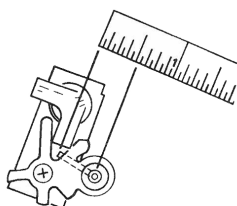

Figure 6
- A. Measure the distance from this point to the ignitor/sensor rod Figure 6.